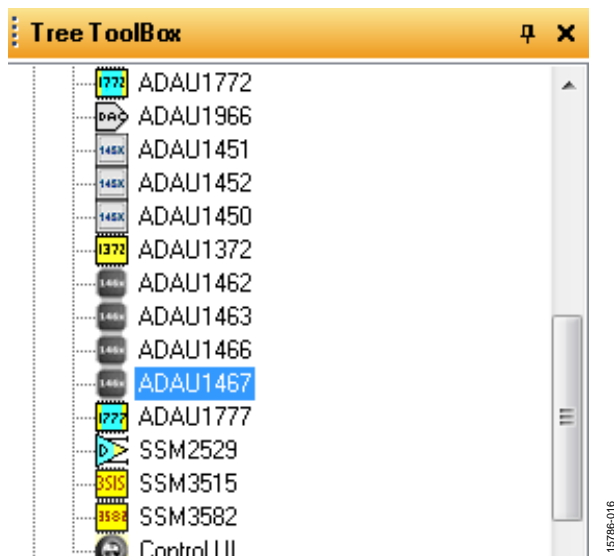

Figure 16. Adding an ADAU1467
This user guide details the design, setup, and operation of the EVAL-ADAU1467Z evaluation board. This board is suitable for the evaluation of, and software development for, the **ADAU1467** and **ADAU1463 SigmaDSP**® processors. Note that the **ADAU1467** and the **ADAU1463** are functionally identical; however, the **ADAU1467** has more program and data memory than the **ADAU1463**. When using this evaluation board to evaluate the **ADAU1463**, select the **ADAU1463** block (see the Setting Up Communications in **SigmaStudio** section) rather than the **ADAU1467**, as shown in Figure 16. Performing this action informs the compiler to limit the amount of memory allocated to match the **ADAU1463**. All other procedures and instructions in this user guide are identical for the **ADAU1463** and **ADAU1467**.
- b. Add an **ADAU1467** component from the **Processors (ICs/DSPs)** subsection of the toolbox (see Figure 16).